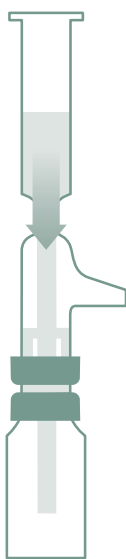

Figure 2
- As an alternative, you can use the negative pressure provided by a vacuum source. See **Figure 2 and 3**.